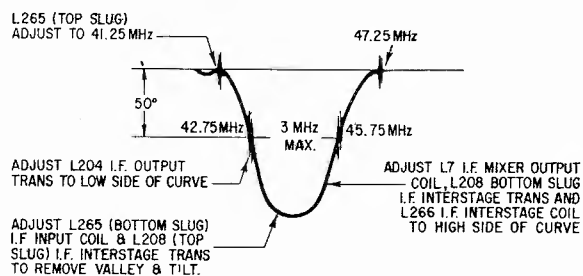

Figure 3.—Video I.F. Phase Pattern
8. Set Marker Generator to 41.25 MHz and adjust L265 (top core) for minimum gain of 41.25 MHz marker. (See Figure 3).
9. Set Marker Generator to 42.75 MHz and adjust L204; 44.00 MHz and adjust L208 (top core) and L265 (bottom core); 45.75 MHz and adjust L7, L208 (bottom core) and L266; for maximum gain and symmetry of response curve with markers as shown in Figure 3.